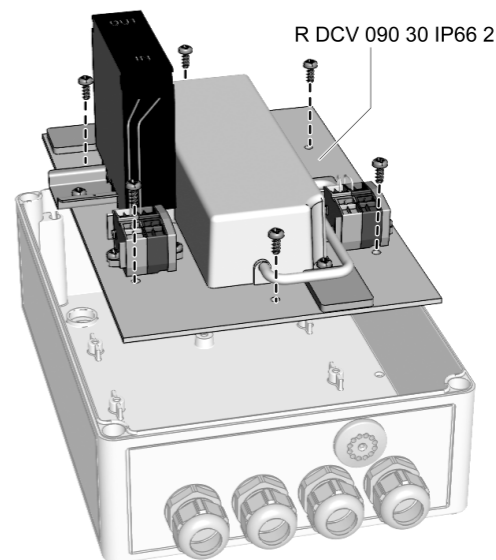

Figure 8: Exchanging power supply unit
- Insert new power supply unit from the repair set "R DCV 090 30 IP66 2" into the housing and fasten to all six fastening points with the screws provided (Figure 8).